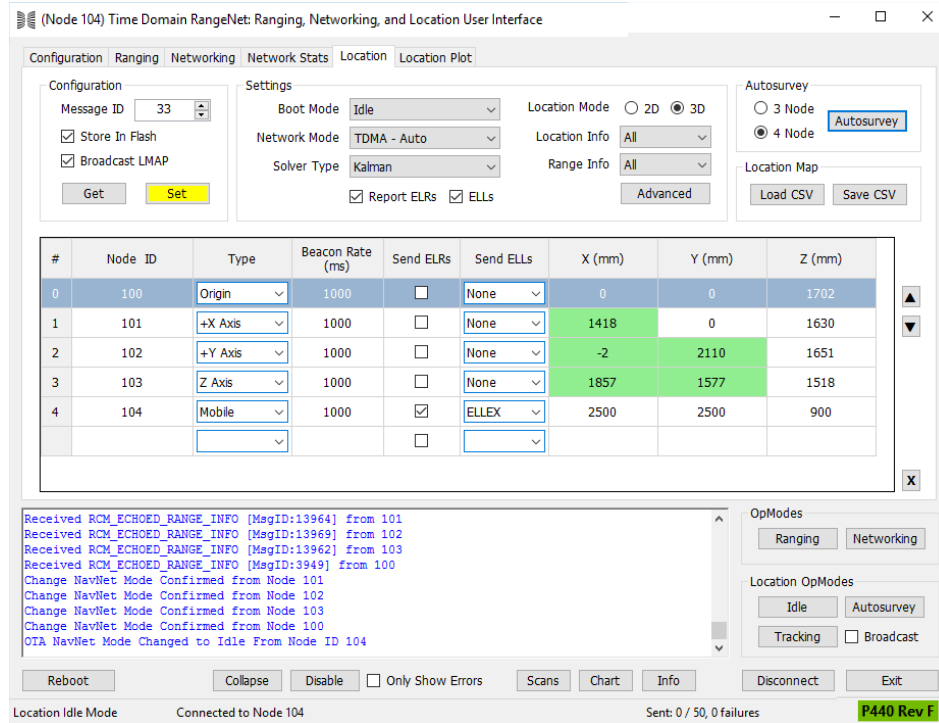

Fig. 25: Broadcast options enable distribution of Location Map (LMAP)
- Distributing the final LMAP through the system.** Note that the X and Y values in the LMAP are reasonable and the **Set** button is yellow. With the exception that your X and Y values are different, your display should be identical to **Figure 25**.